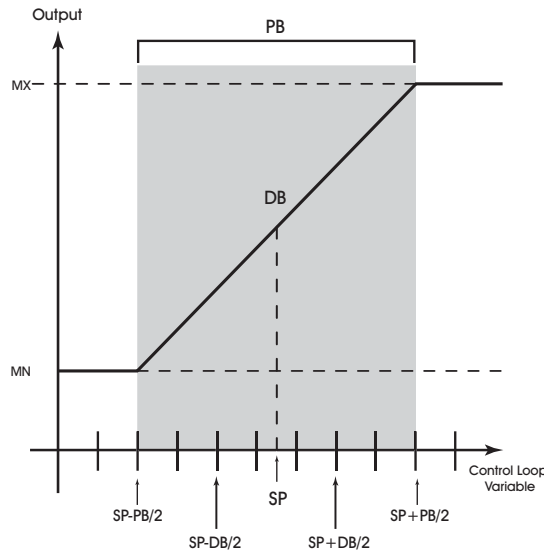
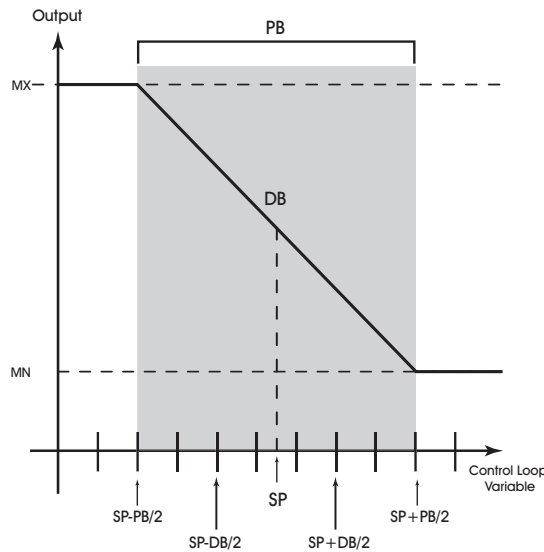

Figure 3-15: Proportional Band for Normal Acting Control ($SG = 0$)
Figure 3-16: Proportional Band for Reverse Acting Control ($SG = 1$)
To determine **PB**, first decide how closely the NB-GPC3 must control the output to the setpoint. For instance, if the setpoint is 72°F, then an acceptable control range might be within two degrees of the setpoint. This control range can be expressed as a band centered on the setpoint: from 70° to 74°, or 4 degrees—the *proportional band (PB)*. Refer to Figure 3-15 and Figure 3-16.
For normal acting control loops (see Figure 3-15), the **(PO) Percent Output** property is set to maximum output when the input variable equals the setpoint plus half of the proportional band ($CS + PB/2$). The percent output is set to minimum output when the input variable equals the setpoint minus half of the proportional band ($CS - PB/2$). These associations are reversed for reverse acting control loops. **PO** will be midway between minimum and maximum output when the measured variable is equal to the control setpoint **CS**. The opposite would be true for reverse acting control loop as shown in Figure 3-16.